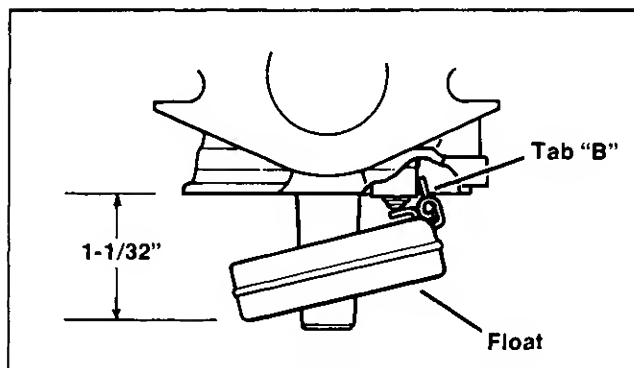

Figure 4-5. Setting Float Drop
3. **Set float drop.** With carburetor in normal operating position, float drop should be limited to $1-1/32"$ between machined surface of casting and free end of float. Adjust by bending float tab "B." See Figure 4-5.